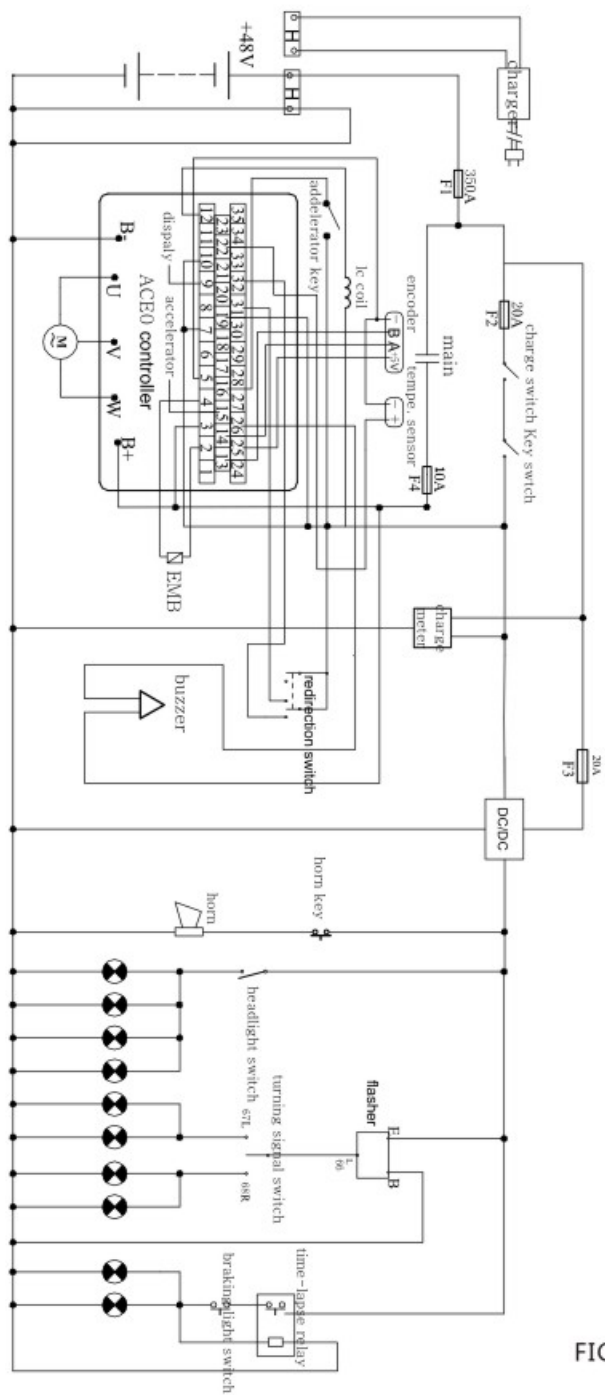

FIG.3
3)Wiring diagram for vehicle 48V with Zapi controller ACE0 ( FIG.3 )